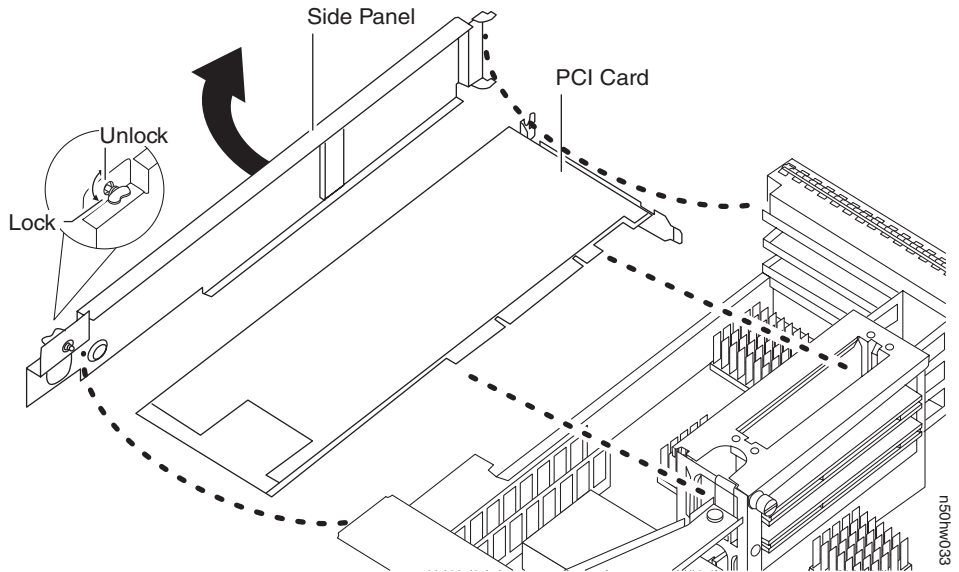

Figure 34. Accessing the NVRAM6 adapter
3. Remove the NVRAM6 adapter by completing the following substeps, using Figure 34 on page 67 for reference: